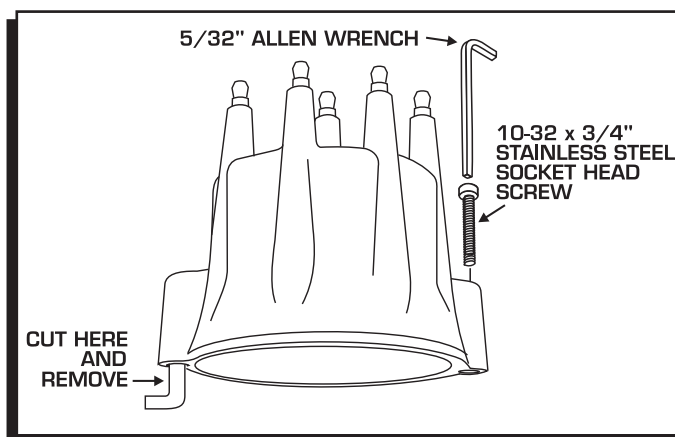

Figure 9 Optional Installation by Bolting Cap Down.
**Installation Option:** This Cap can also be bolted down to an MSD Pro-Billet or Billet Distributor base with the supplied hardware. To accomplish this, the spring clips must be cut off (Figure 9).